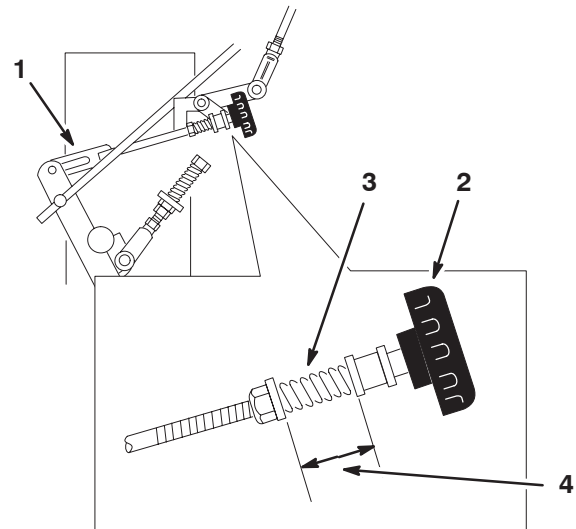

Figure 52
4. Adjust the right side linkage by turning the quick track knob counterclockwise until the tire begins to rotate forward (Fig. 52).
5. Turn the knob clockwise 1/4 of a turn at a time. Then move the speed control forward and back to neutral. Repeat this until right wheel stops rotating forward (Fig. 52).
6. The spring that keeps tension on the knob should normally not need adjustment. However if an adjustment is needed, adjust the length of spring to 1 inch (26 mm) between the washers (Fig. 52).
7. Adjust spring length by turning nut at front of spring (Fig. 52).